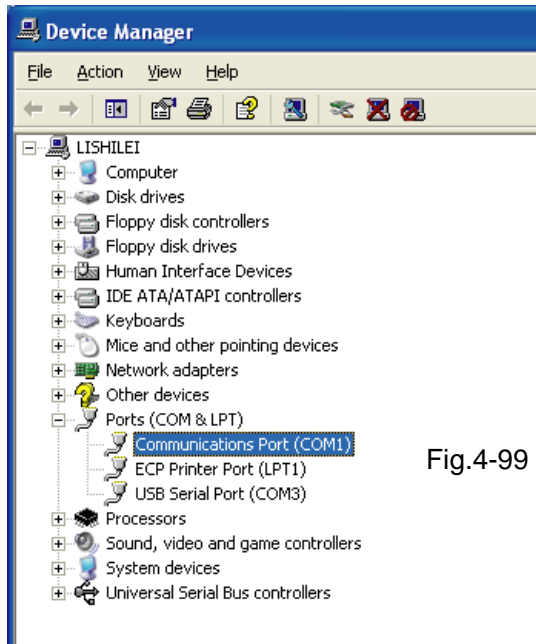

Fig.4-99
- 3、The window “Device Manager” will be showed up after clicking the “Device Manager, as Fig. 4-99.